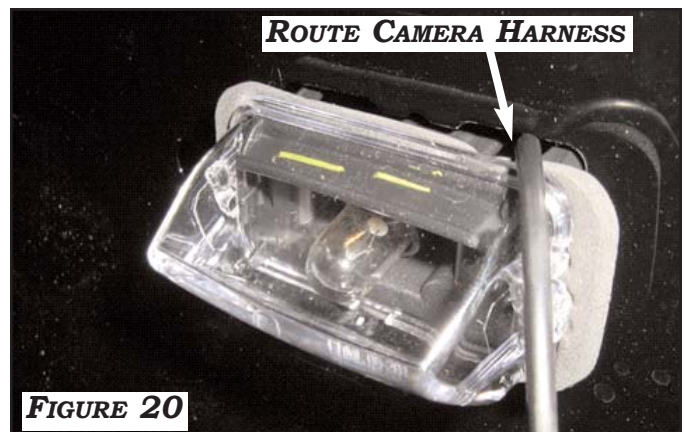

FIGURE 20
2. REMOVE THE LEFT SIDE LICENSE PLATE LIGHT FIXTURE TO ROUTE CAMERA HARNESS AS SHOWN IN **FIGURE 20**. REASSEMBLE THE LIGHT FIXTURE WITH CAMERA HARNESS AT TOP RIGHT CORNER BEHIND FIXTURE HOUSING.